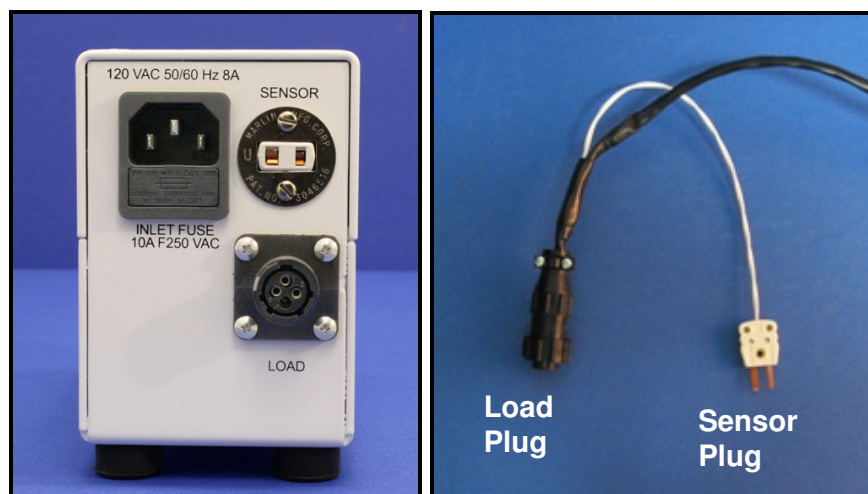

Figure 2. Back of Watlow Controller and Connector Cable for a VP 741 Series Heating Block.
2. The Heat Block Connector Cable, which is attached to the block, has two plugs on the free end for connecting to the Watlow Controller (refer to Figure 2). Connect the round 3-pin plug of the Connector Cable into the receptacle marked “load” on the back of the Watlow Controller as shown in Figure 2. Also on the back of the Watlow Controller, connect the 2-prong plug of the Connector Cable into the receptacle marked “sensor”. If the Heat Block model is configured with computer communication, please also refer to Technote #134B, “VP 741 Series Heat Block with Computer Control”.